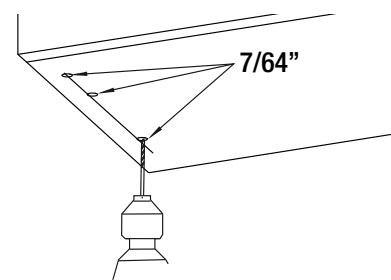

Fig. 16-4
- Set the bracket aside and drill three 7/64" holes in the marked locations as shown in fig. 16-4.